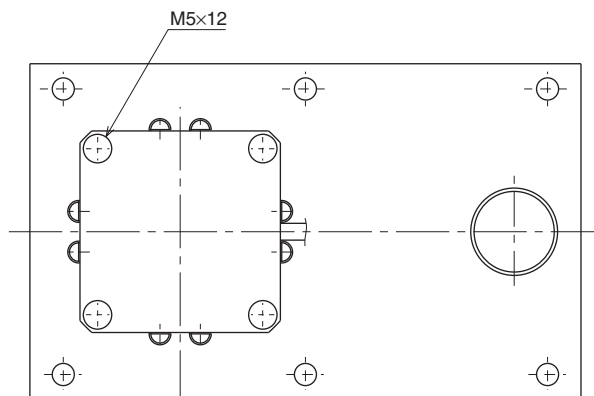

Fig. 5-4
- 9) Remove the bolts (M5×12L, 4 pieces) securing the motor and remove the motor from base 1. (See Fig. 5-4.)
- 16) Fit a new O-ring to the motor and secure the motor to base 1 with the bolts (M5×12L, 4 pieces) you removed earlier. (See Fig. 5-4.)